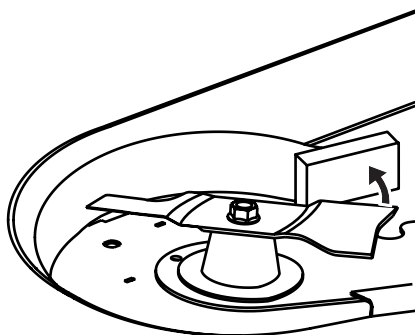

Figure 4-25
1. Secure the blade from turning counter clockwise during service by placing a block of wood between the blade and the deck housing, see Figure 4-25, or wrap a rag around one end of the blade and grasp the blade firmly.